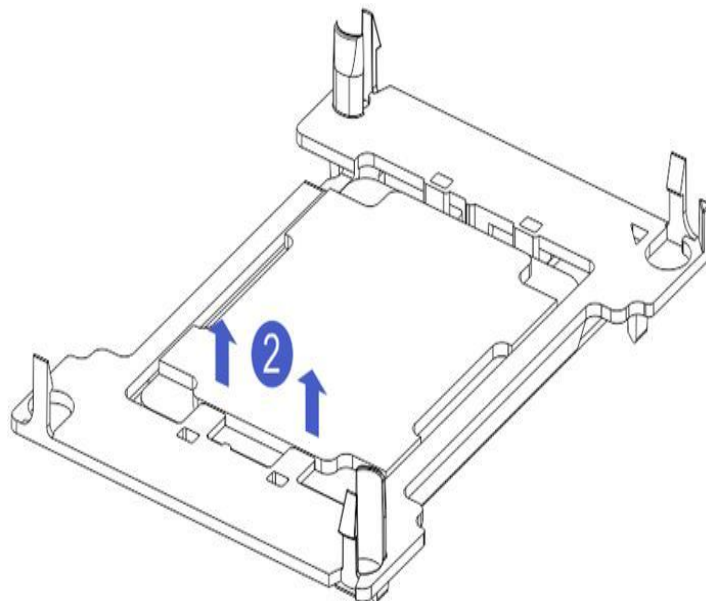

Fig. 3.4
- 1-2. Press the other end of the clamping piece, in the direction of the arrow in Fig. 3.4, to fix the CPU to the clamping piece.